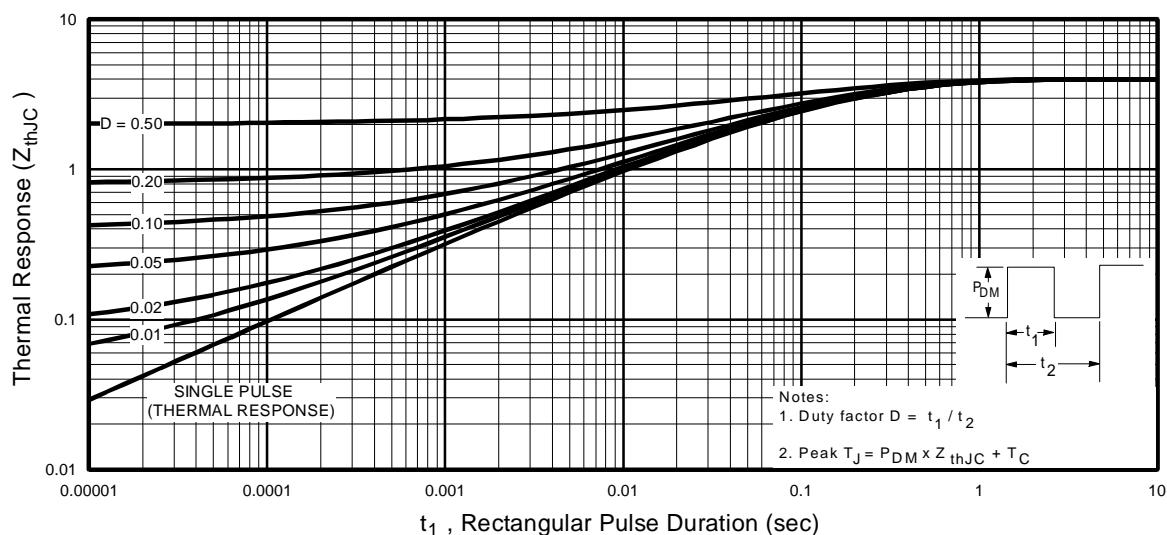

Fig 11. Maximum Effective Transient Thermal Impedance, Junction-to-Case
- ① Repetitive rating; pulse width limited by max. junction temperature. (See fig. 11)
- ② $V_{DD} = 15V$, starting $T_J = 25^\circ\text{C}$, $L = 300\mu\text{H}$